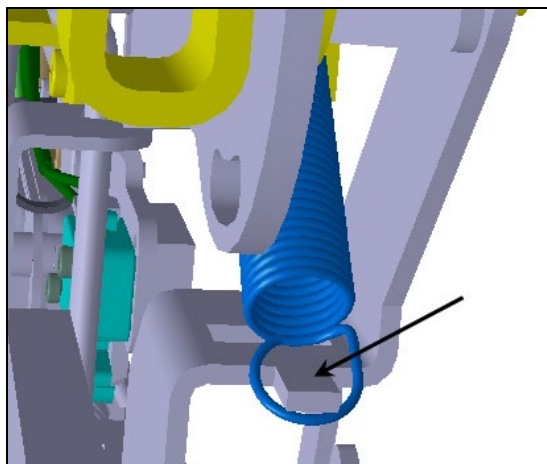

Fig.10
- Reinstall both ends of the return spring (Fig.10 and 11) and tighten the two retaining screws.